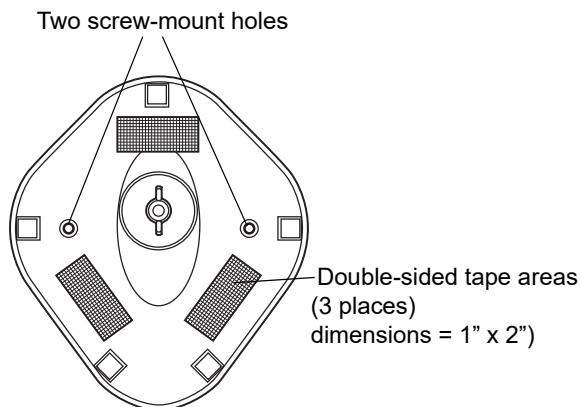

Figure 3-3 Mounting the Stand
2. Screw one #10 wood screw into each screw-mount hole until the base of the stand is secure (see Figure 3-3).
2. Peel the paper liner off the exposed sides of each piece of tape and press the stand on a flat surface until it is secure (see Figure 3-3).